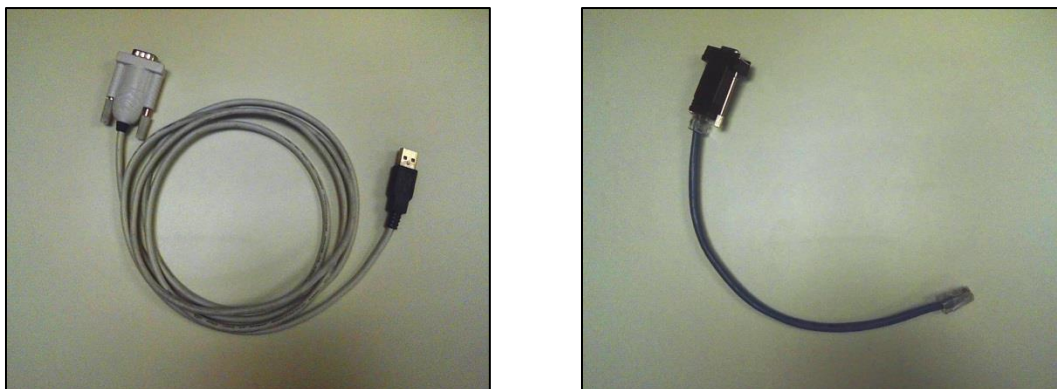

Figure 12 – USB-to-DB9 Cable (L) and RJ45-to-DB9 Adapter Cable (R)
1. Connect the USB-to-DB9 serial cable to the RJ45-to-DB9 adapter cable (Figure 12).